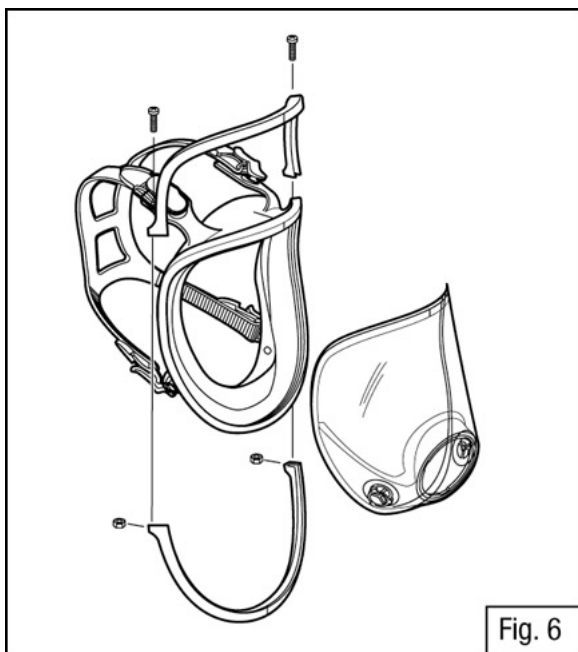

FIG 5
2. Position bottom frame, aligning center vertical mark, and press in place. (Fig. 5)